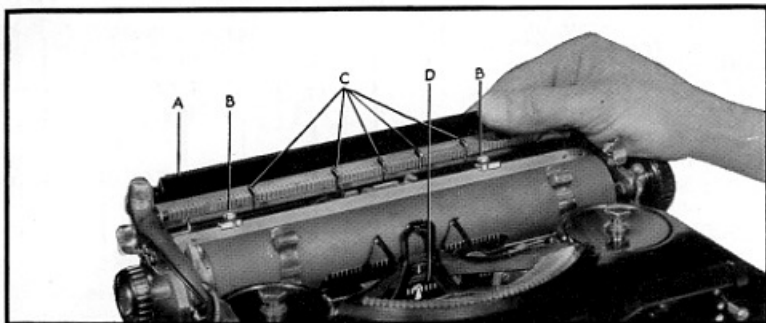

Fig. 3. Paper Table tilted to expose Margin and Tabulator Stops
23. TABULATOR KEY. Used for paragraphing, indenting, billing and all columnar work. (See Fig. 3.)
14. LEFT MARGINAL STOP. Not visible in this picture. (See Fig. 3.) Used to regulate the width of left margin.
16. TABULATOR STOPS. Not visible in this picture. (See Fig. 3.)